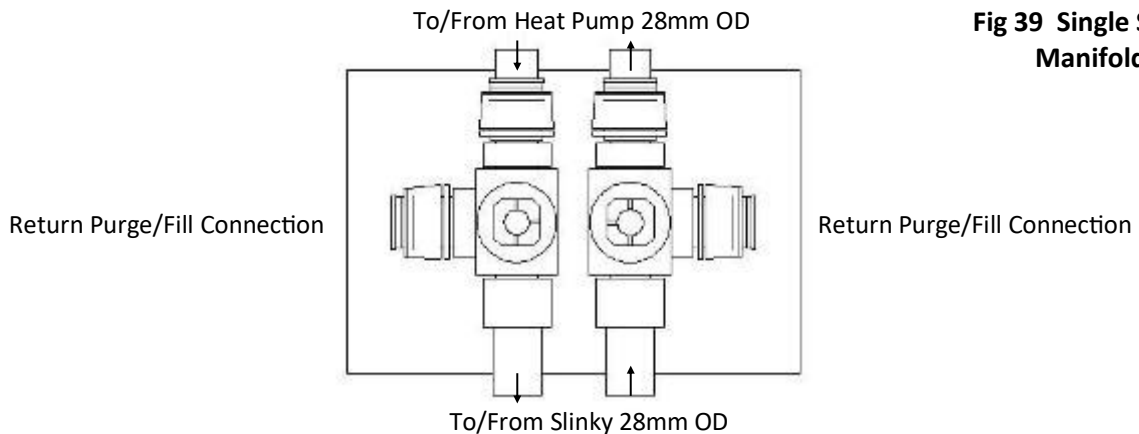

Fig 39 Single Slinky Manifold
The sequence of valve operation for a single manifold is slightly different from larger manifolds. Each slinky is connected to a three port diverting valve as above. The slots machined on the front of each valve indicate which connection is open. The previous drawing (Fig 39) is set for normal operation, i.e. both purge connections are closed and the flow and return from the slinky to the heat pump are open.
- i. Remove the plastic blanking plugs, and connect the purge pump to the fill and purge ports on the Slinky manifold, see Fig 39 above. The purge ports can be connected either way round.